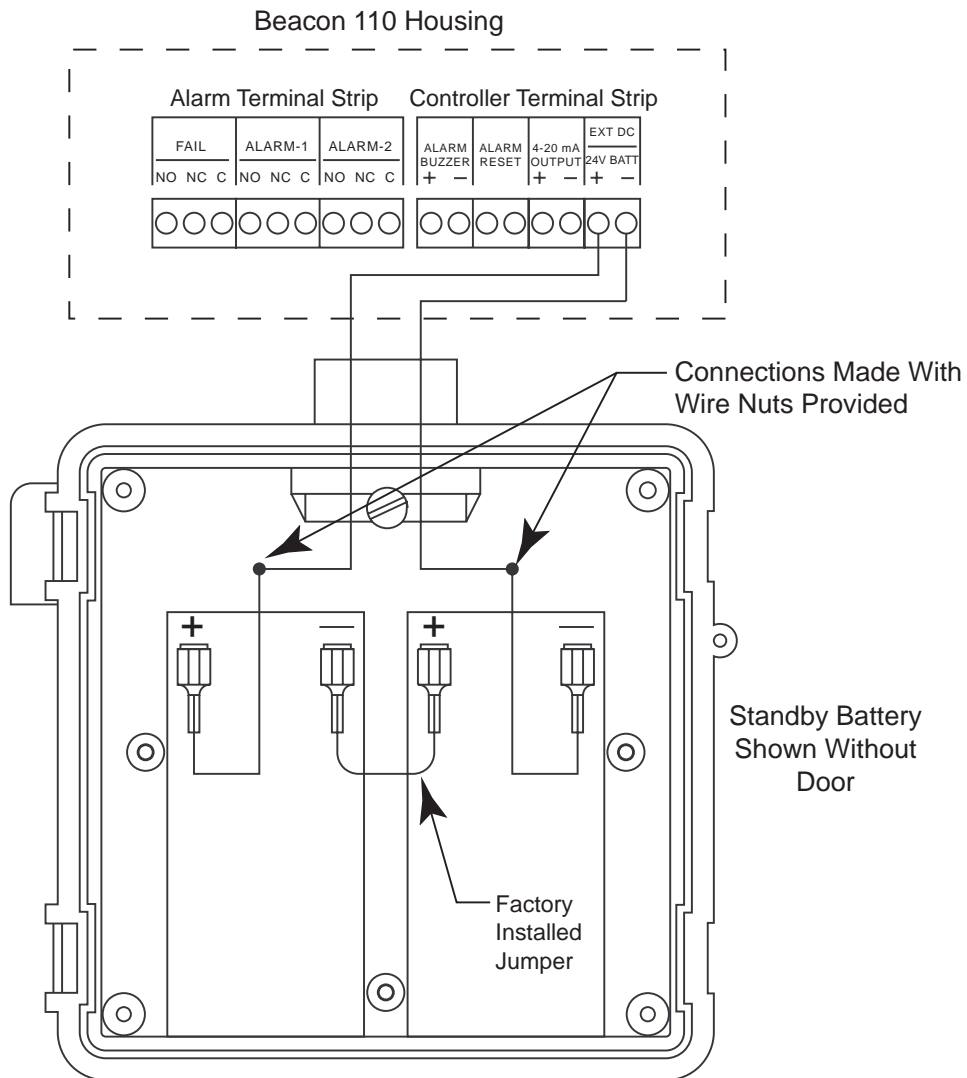
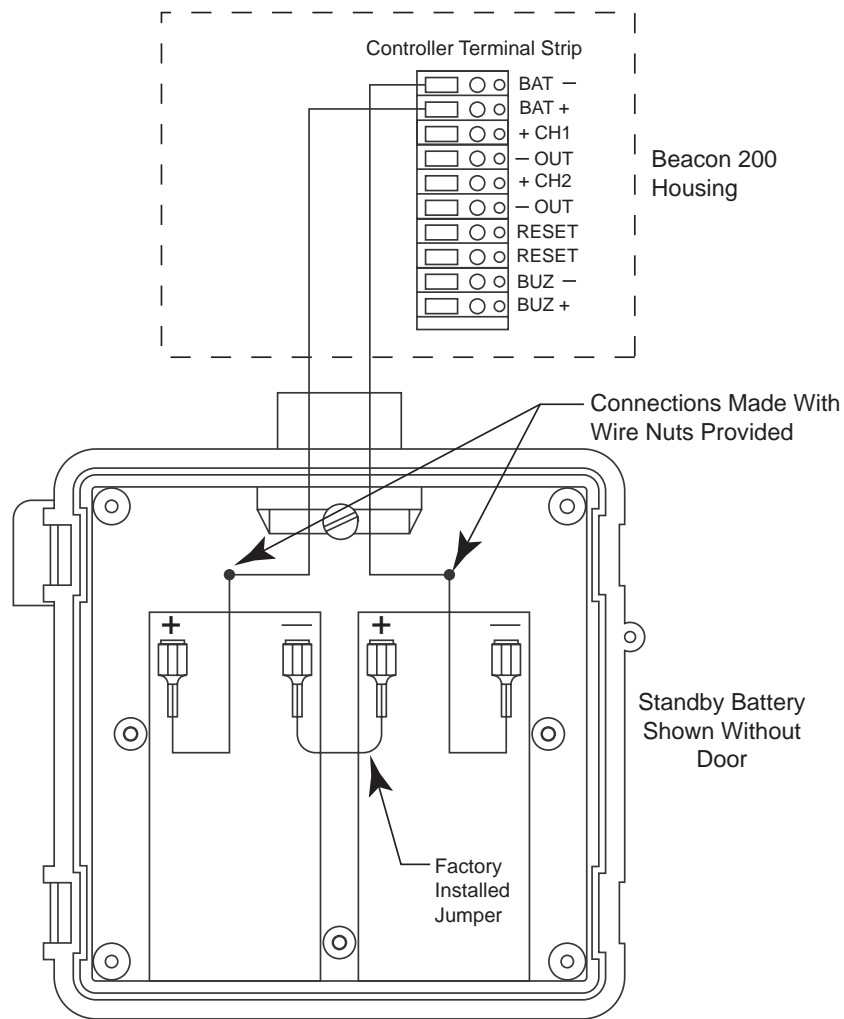

Figure 3: Wiring the Standby Battery to a Beacon 110
Figure 4: Wiring the Standby Battery to a Beacon 200
- Connect the two wires to the 24 VDC power input terminals at the controller. Figure 3 shows standby battery wiring to the Beacon 110 and Figure 4 shows standby battery
10. Use the wire nuts provided with the standby battery to connect the positive and negative wires in the standby battery to the positive and negative wires coming from the controller as shown in Figure 3 and Figure 4.
9. Install the positive and negative connections to the appropriate battery terminals (see Figure 3 and Figure 4).
12. When the controller has completed its warm-up sequence, install the jumper wire between the two batteries (see Figure 3 and Figure 4).